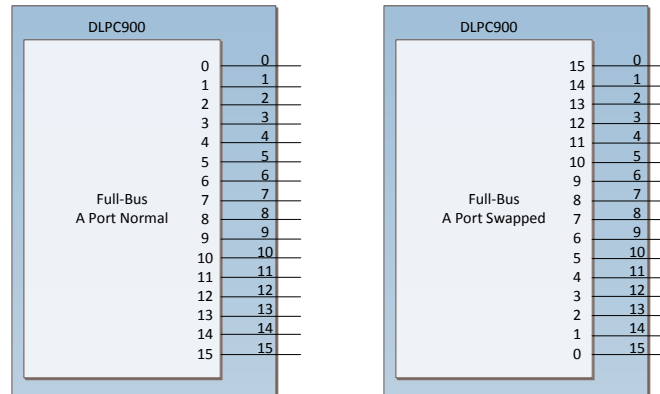

Figure 7-4. Controller to DMD Full-Bus Connections
- (4) The DLPC900 is a Full-Bus DMD signaling interface. Figure 7-4 shows the controller connections for this configuration.
- (5) The pulse duration minimum for any clock rate can be calculated using the following formulas.
Figure 7-4 shows the controller connections for full-bus normal or swapped. Refer to the Firmware section of the *DLP® LightCrafter™ Single DLPC900 Evaluation Module (EVM) User's Guide (DLPU101)* or *DLP® LightCrafter™ Dual DLPC900 Evaluation Module (EVM) User's Guide (DLPU102)* for details on how to select the bus swap settings to match the board layout connections.